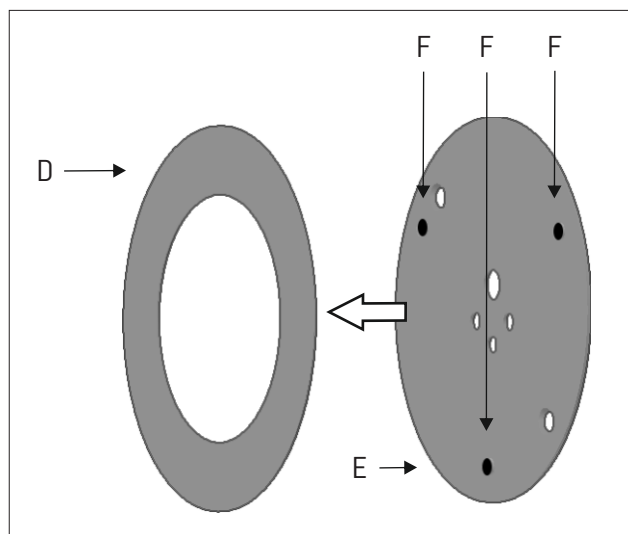

Figure 2
Pull the decorative disc (D) to separate it from the mounting bracket (E). This disc is held by three magnets (F), there is no danger of breakage but be careful not to lose them. Figure 2.